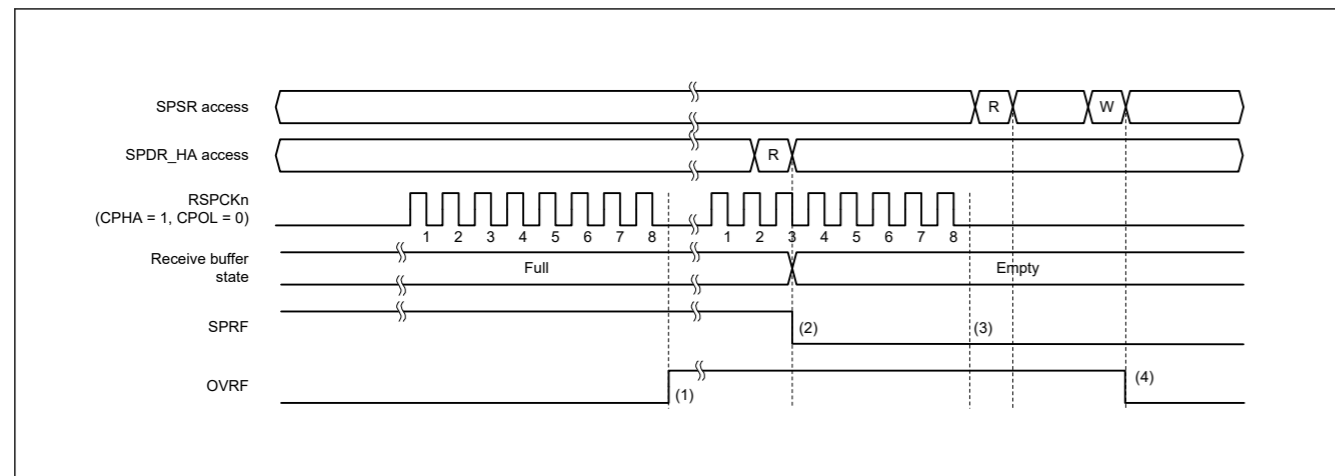

Figure 27.28 Operation example of the OVRF and SPRF flags
Figure 27.28 shows an example of operation of the OVRF and SPRF flags. The SPSR and SPDR\_HA accesses shown in Figure 27.28 indicate the condition of accesses to the SPSR and SPDR\_HA register, where W denotes a write cycle, and R a read cycle. In this example, the SPI performs an 8-bit serial transfer when SPCMD0.CPHA bit is 1 and the SPCMD0.CPOL bit is 0. The numbers given for RSPCKn in the waveform represent the number of RSPCK cycles, such as the number of transferred bits.
The operation of the flags at timings (1) to (4) in Figure 27.28 is as follows: